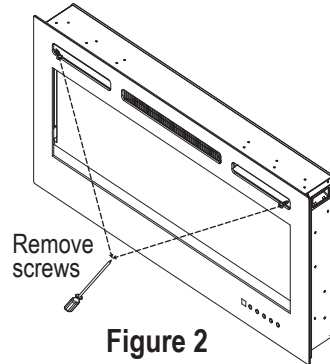

Figure 2
- C. Carefully flip the unit over and lay it face-up. Remove the screws that are on both sides of the front glass panel. [Figure 2] Save the screws for reinstalling the glass panel.